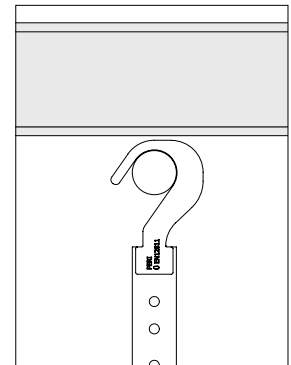

Fig. A11.01b
2. Swing the adapter hanging scaffold down vertically. (Fig. A11.01b)